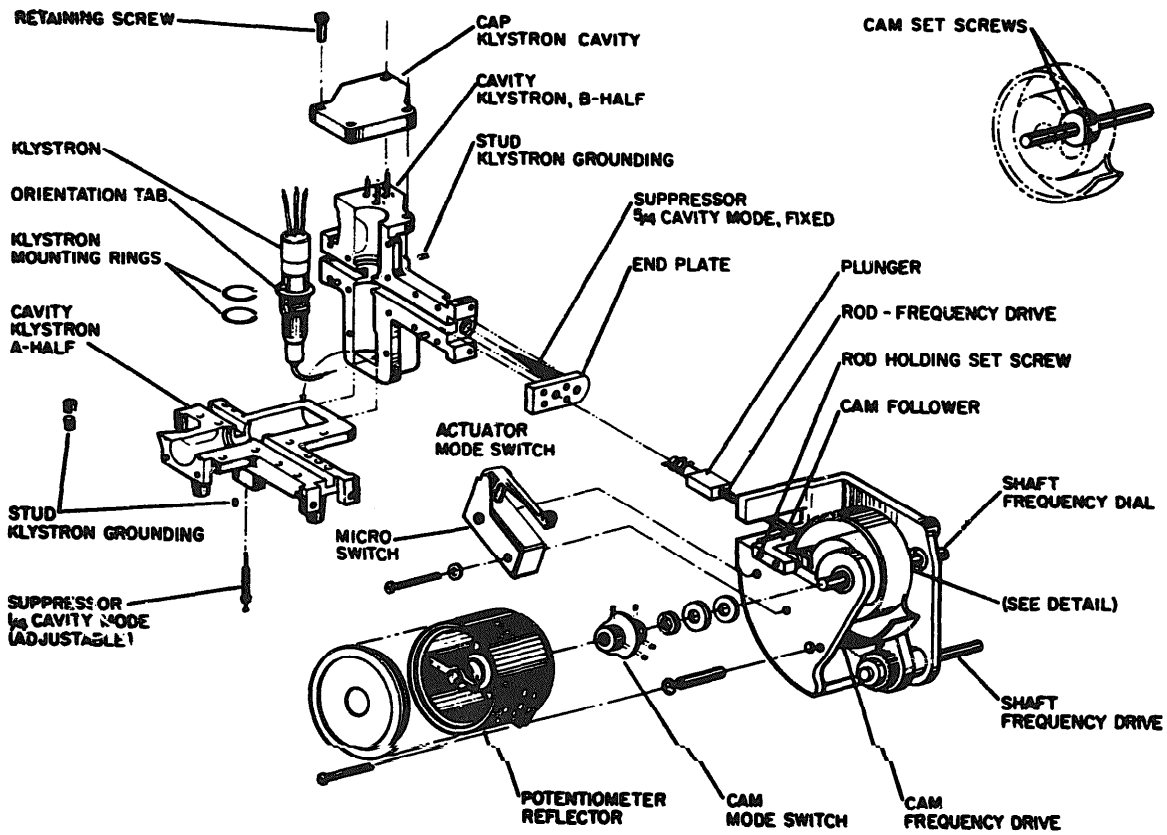

Figure 5-4. Exploded View of Klystron Cavity and Plunger Drive Mechanism
- f. Set frequency dial to 21 GHz and set wavemeter to 21 GHz. Loosen setscrews holding plunger rod to cam follower (refer to Figure 5-4) and pull plunger rod out of cavity until it touches frequency drive cam.
- b. Tune generator from 15 GHz to the point near 18 GHz just before microswitch actuates. Examine the oscilloscope trace for evidence of 1/4 wave mode interference. Under the worst conditions two similar modes may be present. The modes should be identified with the wavemeter, and then the 1/4 wave mode suppressed with the adjustable suppressor shown in Figure 5-4.
- c. Tune the frequency dial slightly toward the high frequency end of the band to the point near 18 GHz just after the microswitch actuates. 1/4 wave mode interference is likely to be worse at this point. In some cases the 1/4 wave mode can totally mask the desired mode, but in the majority of cases it will appear as shown in Figure 5-11 (particularly if the suppressor was not moved during klystron change). Careful adjustment of the adjustable suppressor, Figure 5-4, (after the desired mode has been identified) will normally reduce the 1/4 wave mode. In some cases the 1/4 wave cavity mode can be completely suppressed at this point.